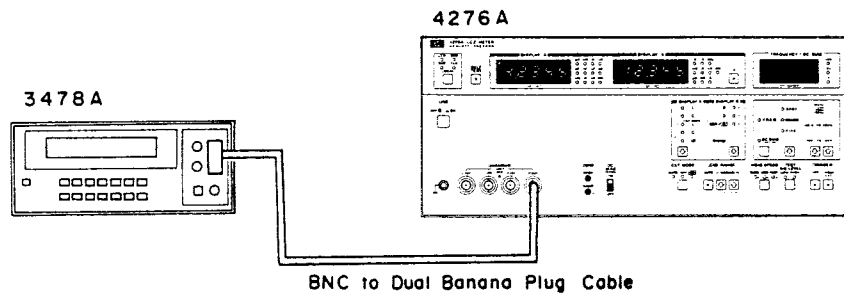

Figure 4-2. Test Signal Level Accuracy Test Setup.
1. Connect the BNC-to-dual banana plug cable to the UNKNOWN H_{CUR} terminal of the 4276A and to the 3478A's input as shown in Figure 4-2.